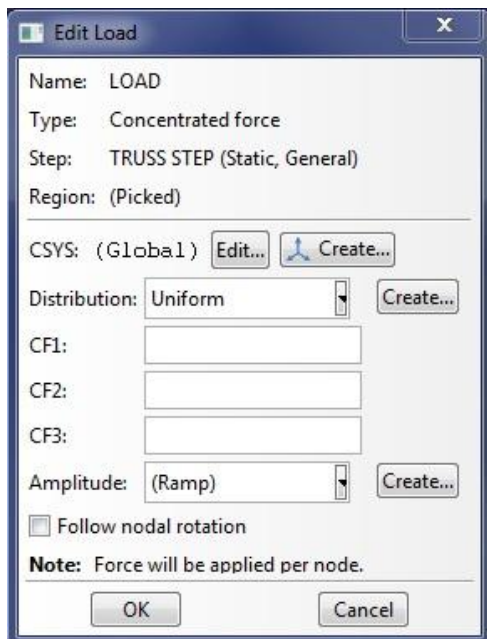
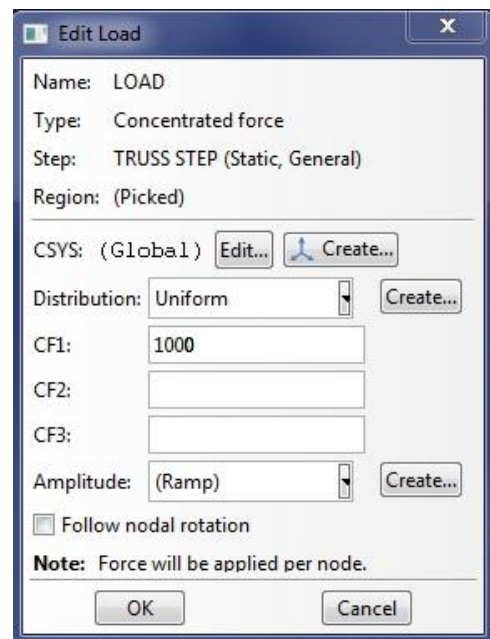

Figure 24a. Edit Load Dialog Box
Figure 24b. Edit Load Dialog Box (1000)
- Click **Done**. The **Edit Load** dialog box will immediately appear (Figure 24a). Enter a value of 1000 into the **CF1** option. This entry will apply a load of 1000 lbs in the positive X direction. The **Edit Load** dialog box should look identical to that in Figure 24b.